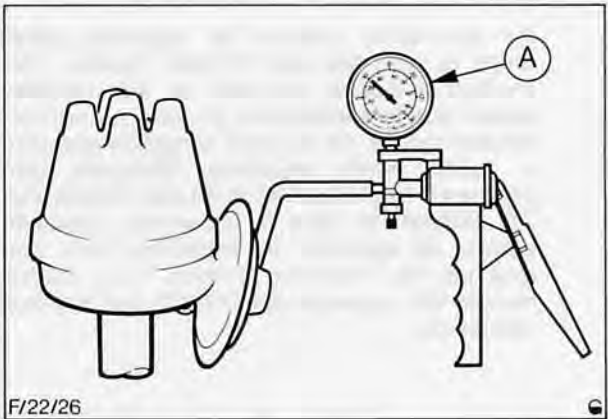

Fig. 31. Hand vacuum pump connected to distributor
- i Connect hand pump directly to distributor, Fig. 31.